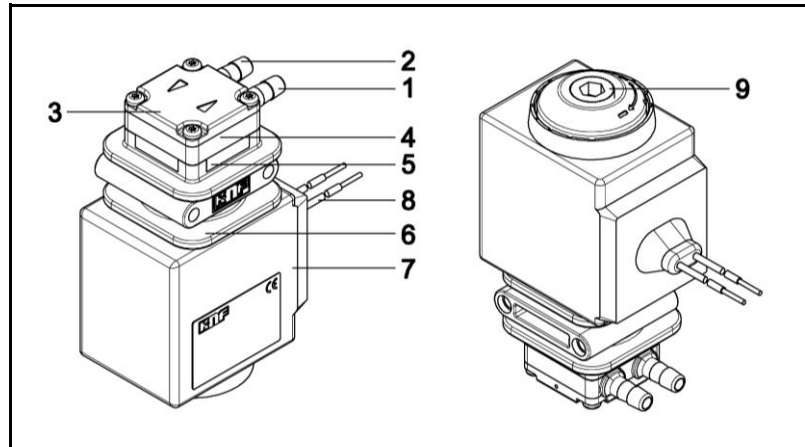

Fig. 1: Magnetic diaphragm metering pump FMM 80
* The pump head comprises an intermediate plate and a connecting plate (Fig. 1).